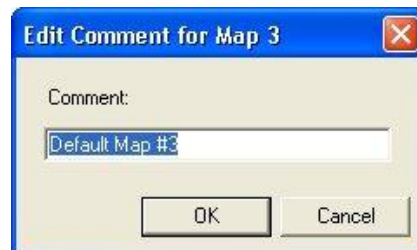

Figure 10 - Edit Map Comment Dialog
- When editing a map clicking the right mouse button in the graph area brings up a context menu that allows the comment associated with the map to be edited. When this menu option is selected the Edit Map Comment dialog (Figure 10) is displayed. Make any changes that are required and then click **OK** or **Cancel** to leave the comment unchanged. Note that these comments are only stored in the disk file and are not read from or written to the EPAS Ultra ECU.